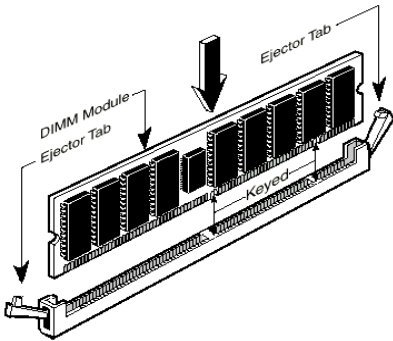

Figure 2-6. Memory module installation
Step 5. Insert the DIMM module into the expansion socket as shown in the illustration. Note how the module is keyed to the socket. You can refer to figure 2-6 for the details. *This insures the DIMM module will be plugged into the socket in one way only.* Firmly press the DIMM module into the DIMM socket, making certain the module is completely seated in the DIMM socket.